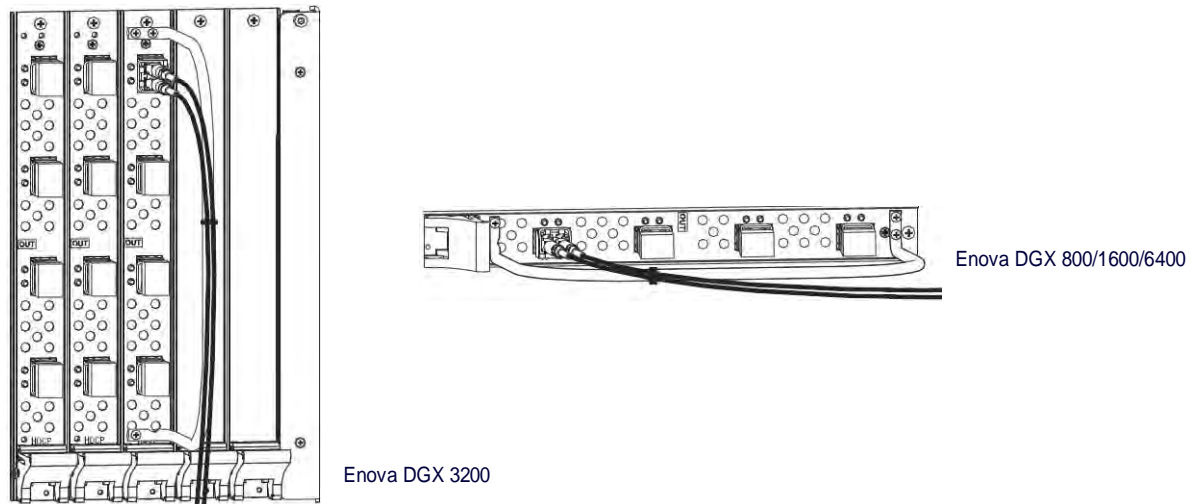

FIG. 60 Attach cables to input and output connectors (shown with cable management bar)
- Tie the DXLink fiber cable to the cable management bar far enough below the connector to allow for the manufacturer's recommended bend radius (FIG. 60).